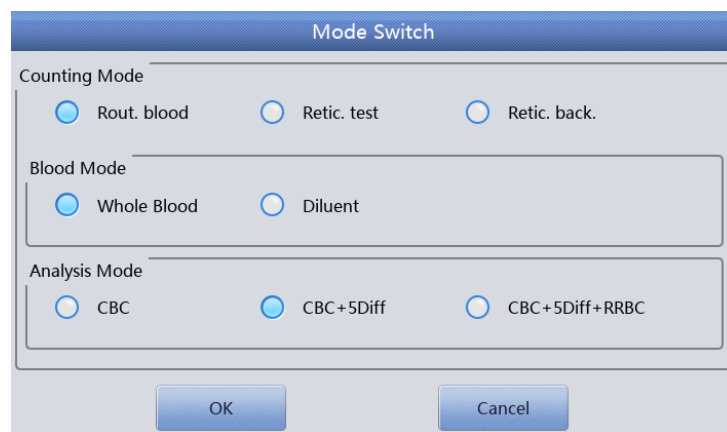

Figure7-4 Mode Switch Operations
1. Set the current test mode to “Diluent” in “Test” interface, as shown in Figure 7-4.